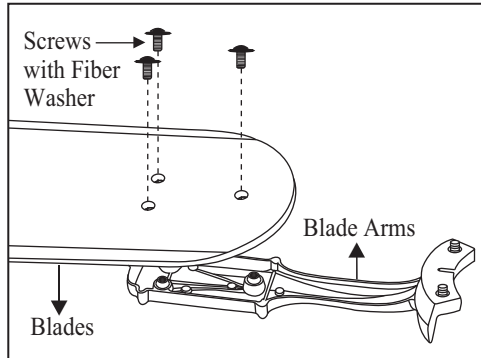

Figure 12
1. Attach blades to blade arm using the screws with fiber washers provided. (Fig. 12) Start a screw into the blade arm, do not tighten. Repeat for the 2 remaining screws and washers.